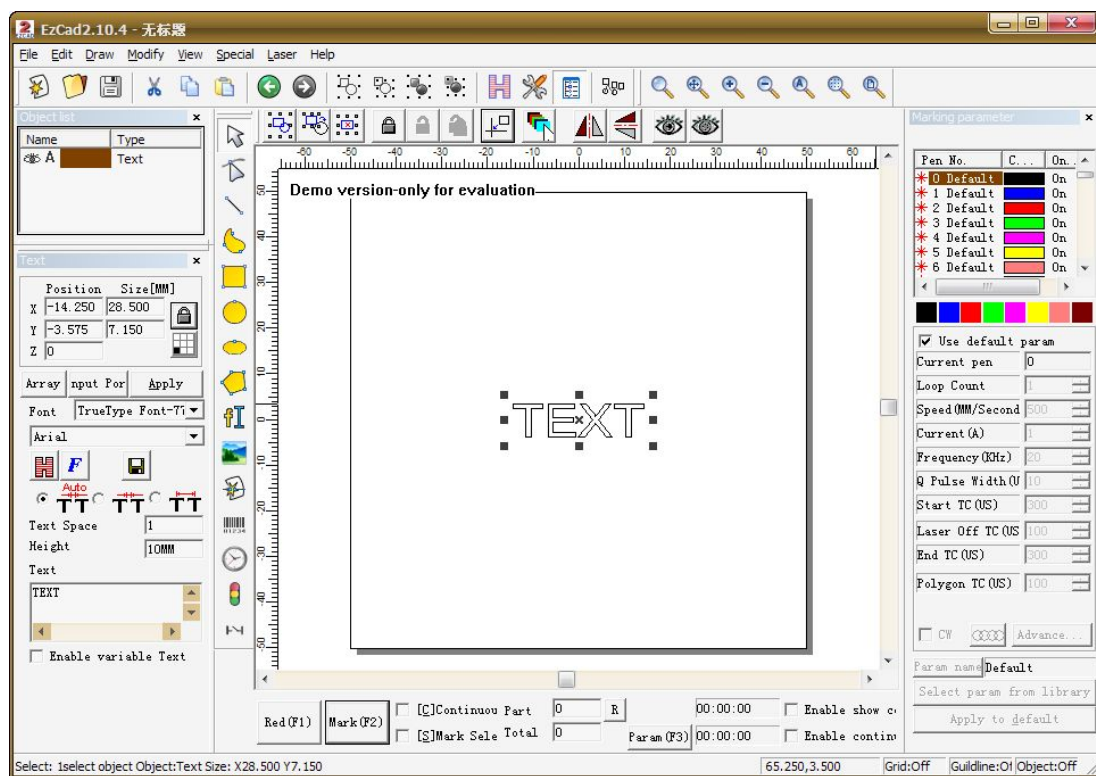

Figure 1-2 EzCad2 Main Window
- **Main Interface (Figure 1-2)**